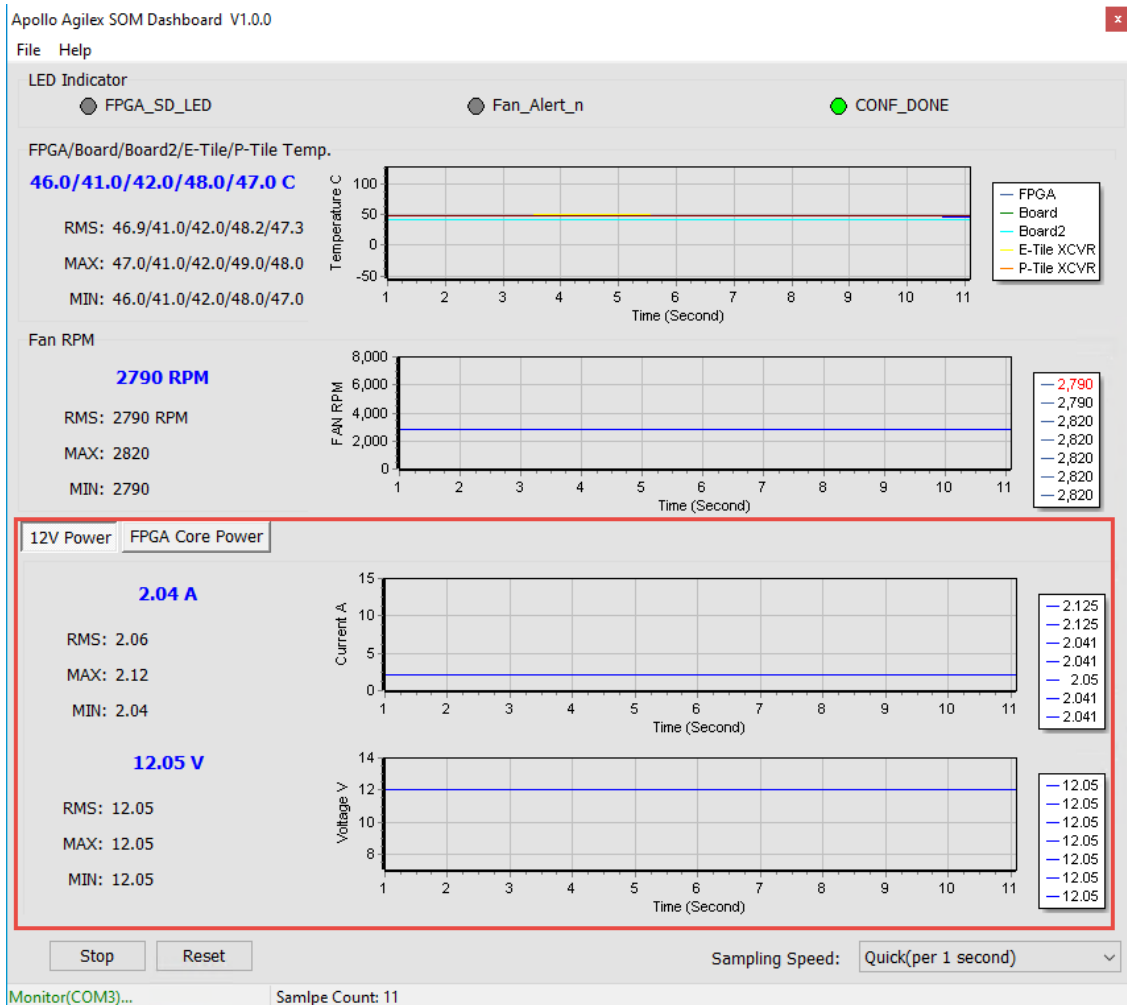

Figure 3-8 Power Monitor Section
- **12V Power monitor:** It displays the real-time 12V Power voltage and consumption current on the Apollo Agilex board, as shown in **Figure 3-8**.